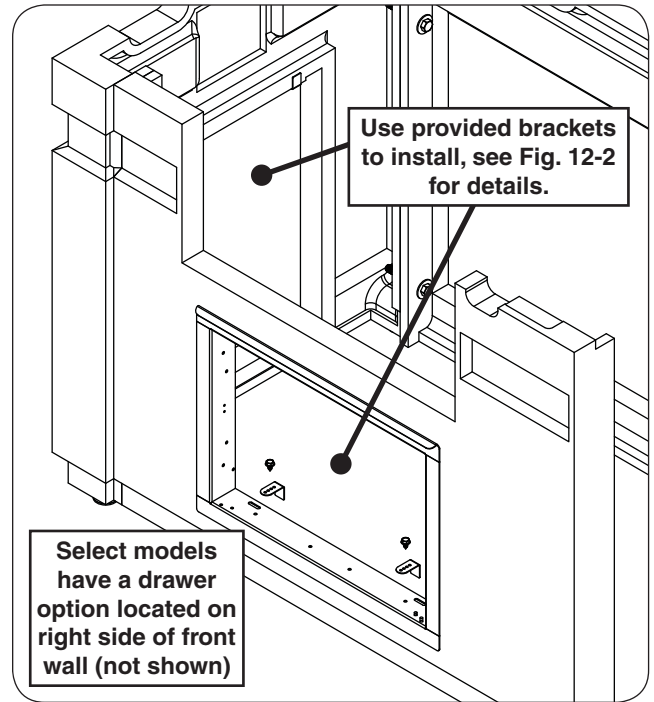
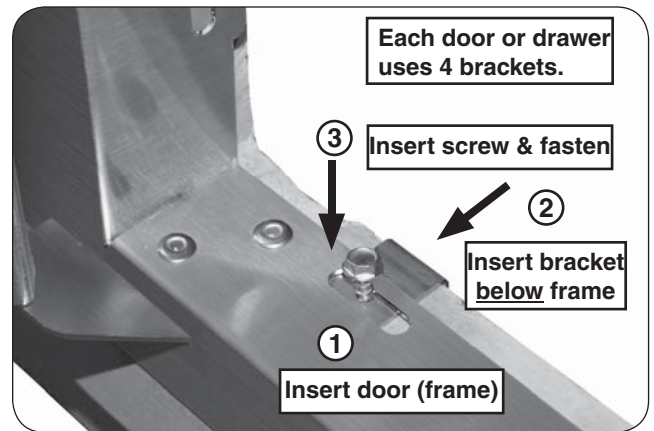

Fig. 12-1 Door / drawer install locations
Fig. 12-2 Door / drawer install detail
The drawers/doors for your island are purchased separately. Review the instructions provided with your accessories. See Fig. 12-1 for install locations.
1. Insert your unit **completely** into the appropriate opening. Ensure it is flush against the exterior wall (see Fig. 12-1 and Fig. 12-2, step 1).
2. The unit will have 2 oblong cutouts (or round holes) on both the top and bottom of its frame. Reach from within the island and insert a bracket where a cutout exists, **below the frame**. See Fig. 12-2, step 2.
3. While squeezing the rear of the bracket and the front of the door frame **firmly** against the concrete wall, insert a hex screw and tighten with the power drill and 5/16" hex driver (see Fig. 12-2, step 3). **DO NOT OVERTIGHTEN.**